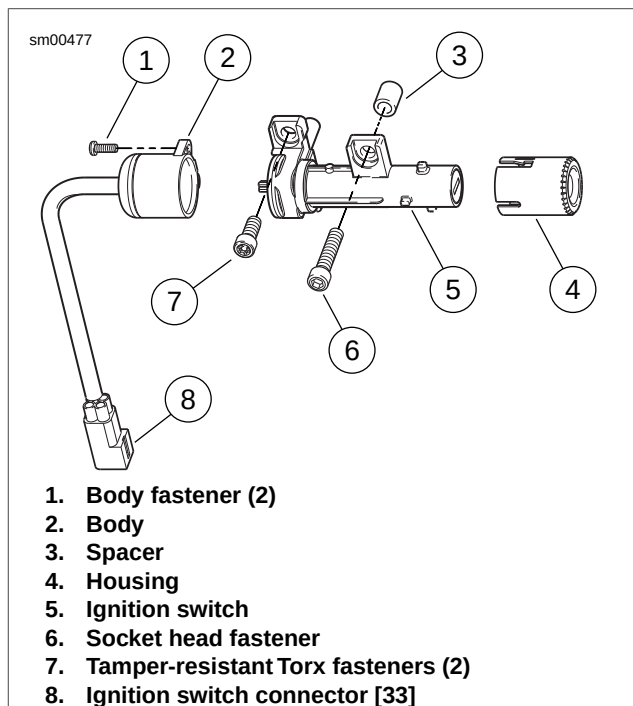

Figure 7-13. Ignition Switch Assembly
1. See Figure 7-13. Remove housing (4) from ignition switch (5) by prying tabs on side of housing.
2. Remove body fasteners (1). Separate body (2) from ignition switch (5).
See Figure 7-13. In next step, be sure wide slot in housing (4) is installed over wide boss on ignition switch (5).
1. Push housing (4) on to ignition switch (5).
3. See Figure 7-13. After applying LOCTITE 271 (red), attach ignition switch assembly to upper triple clamp using ignition switch fasteners (7, 6) install spacer (3) onto fastener (6) and tighten to 18-20 ft-lbs (24.4-27.1 Nm).